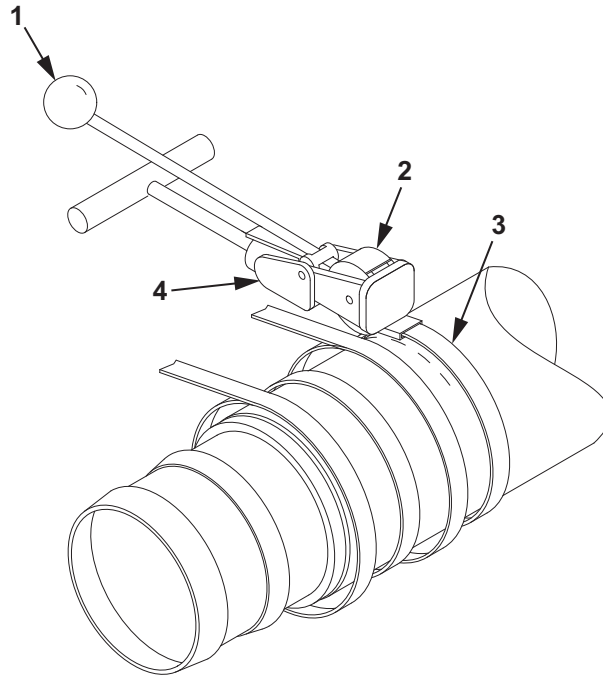

Figure 14. Hose Assembly Repair.
36. While holding the clamping tool handle (Figure 14, Item 1) in the down position, strike the center punch anvil (Figure 14, Item 2) three to four times with a hammer.
37. While still holding the clamping tool handle (Figure 14, Item 1) in the down position, raise the entire clamping tool (Figure 14, Item 4) up to shear the tail of the band off of the clamp (Figure 14, Item 3).
38. Using hammer, tap the edge of the distorted clamp (Figure 14, Item 3) down to a level configuration.